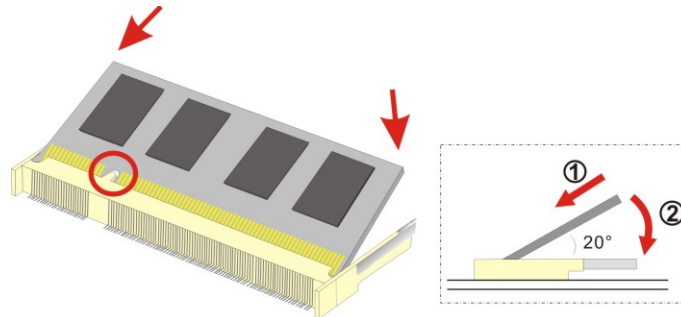

Figure 4-1: SO-DIMM Installation
To install an SO-DIMM, please follow the steps below and refer to Figure 4-1.
- Step 3:** Insert the **SO-DIMM**. Push the memory in at a 20° angle. (See **Figure 4-1**)
- Step 4:** Seat the **SO-DIMM**. Gently push downwards and the arms clip into place. (See **Figure 4-1**)